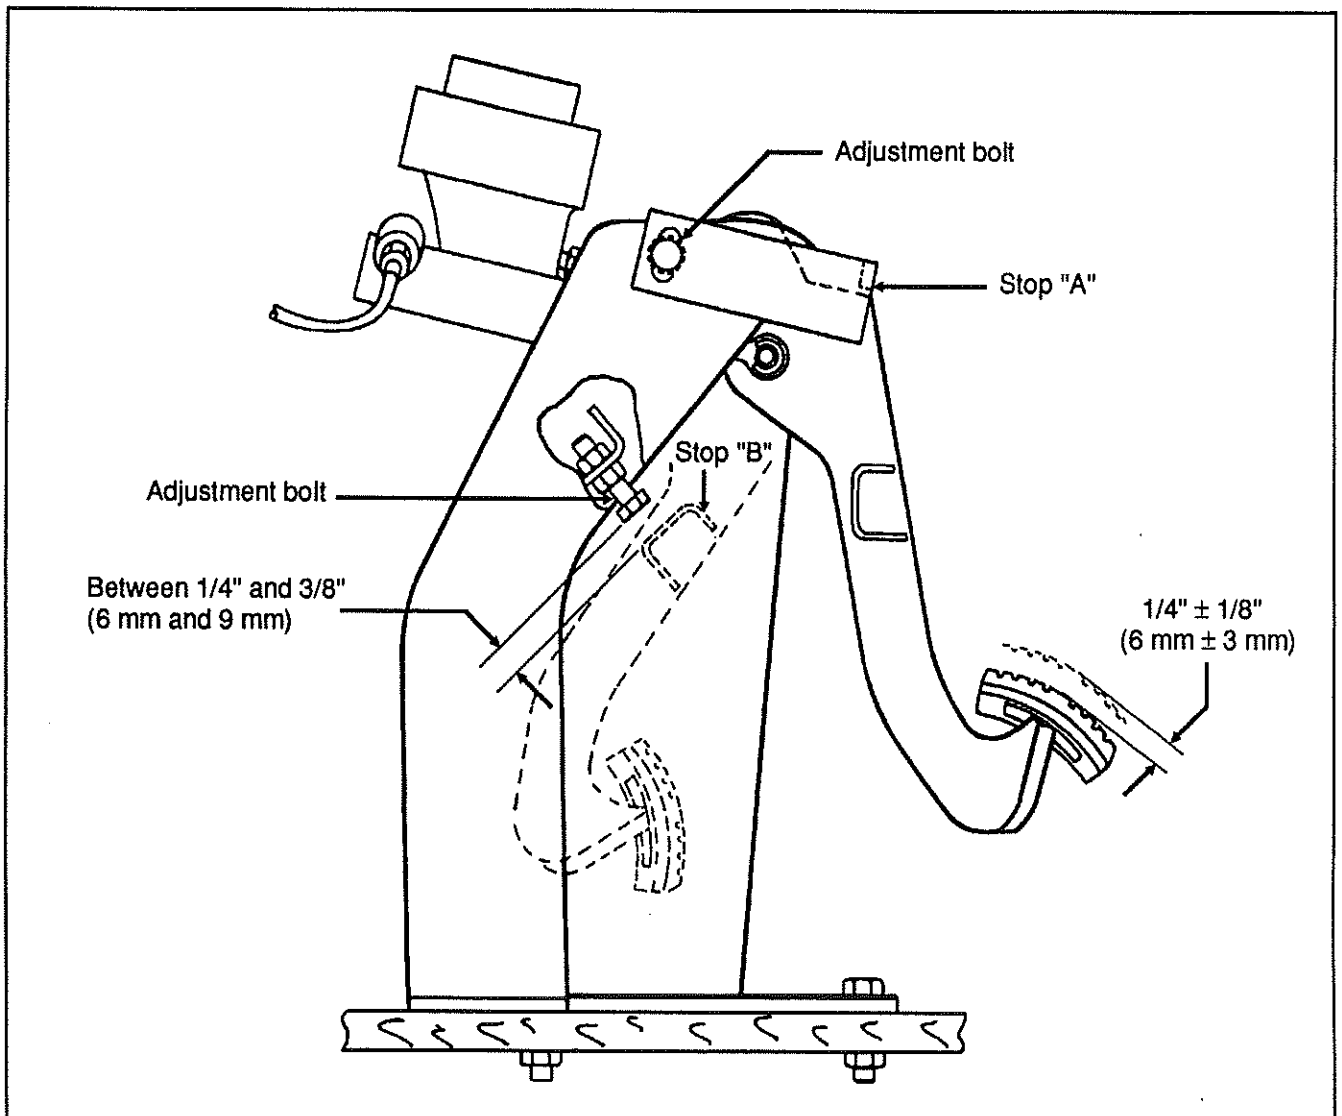

Fig. 22 - Clutch pedal installation
1. Push the clutch pedal by hand, then referring to figure 22, note the clutch pedal free play. When free play ends, pedal resistance will increase abruptly.
2. The desired free play is $1/4" \pm 1/8"$ (6 mm \pm 3 mm); if free play is incorrect, loosen the adjustment bolt, reposition the stop "A" as needed to change free play, then tighten the adjustment bolt (see fig. 22).
1. Depress clutch pedal. With correct release travel and free travel settings, the distance between stop "B" mounted on the clutch pedal linkage and the adjustment bolt should range between 1/4 and 3/8" (6 and 9 mm) at the beginning of the clutch brake "squeeze" (refer to previous fig. 22).